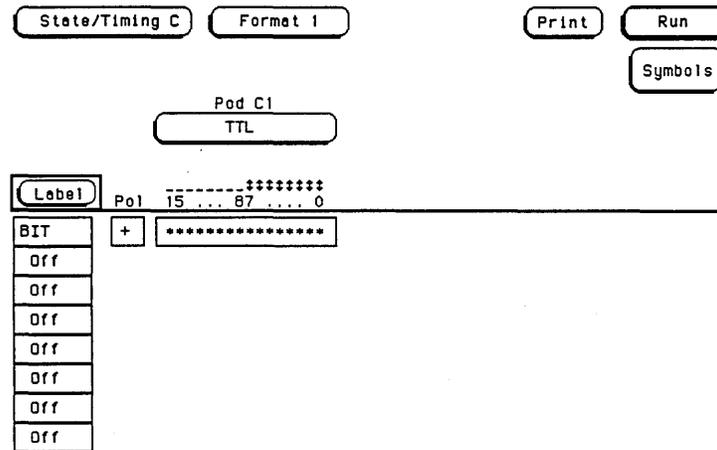

Figure 3-35. Format Screen
4. Set up the Format screen to assign all bits of pod under test to a label as in figure 3-35. Follow steps a and b if unfamiliar with the menus.